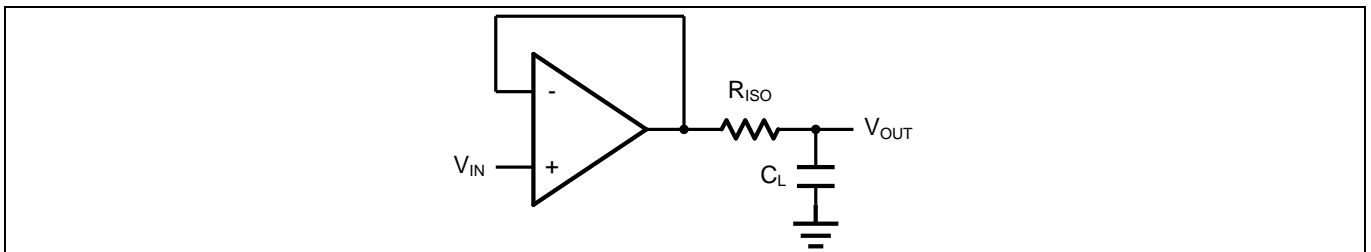
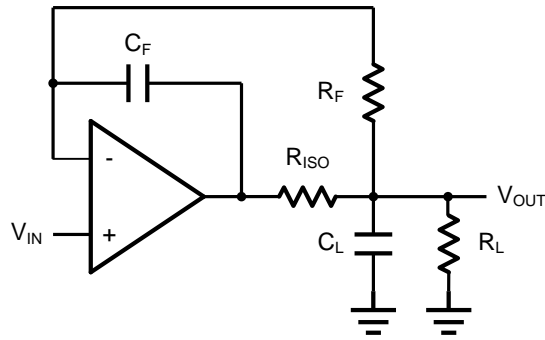

Figure 2 Indirectly Driving a Capacitive Load Using Isolation Resistor
Figure 3. Indirectly Driving a Capacitive Load with DC Accuracy
The LMV358B/324B is optimized for bandwidth and speed, not for driving capacitive loads. Output capacitance will create a pole in the amplifier's feedback path, leading to excessive peaking and potential oscillation. If dealing with load capacitance is a requirement of the application, the two strategies to consider are (1) using a small resistor in series with the amplifier's output and the load capacitance and (2) reducing the bandwidth of the amplifier's feedback loop by increasing the overall noise gain. Figure 2 shows a unity gain follower using the series resistor strategy. The resistor isolates the output from the capacitance and, more importantly, creates a zero in the feedback path that compensates for the pole created by the output capacitance.
The circuit in Figure 3 is an improvement to the one in Figure 2. R_F provides the DC accuracy by feed-forward the V_{IN} to R_L . C_F and R_{ISO} serve to counteract the loss of phase margin by feeding the high frequency component of the output signal back to the amplifier's inverting input, thereby preserving the phase margin in the overall feedback loop. Capacitive drive can be increased by increasing the value of C_F . This in turn will slow down the pulse response.